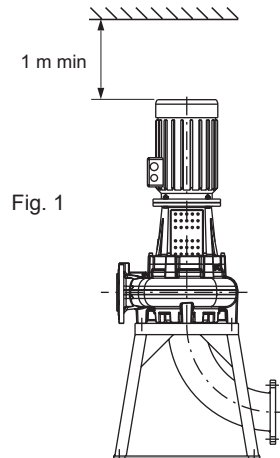

Fig. 1
- 1 - electric pump positioned with the rotor axis vertical, on a bearing stand and with elbow flanged on the intake (fig. 1). **ATTENTION:** if installed outdoors in a vertical position, the electric motor must be equipped with a canopy.